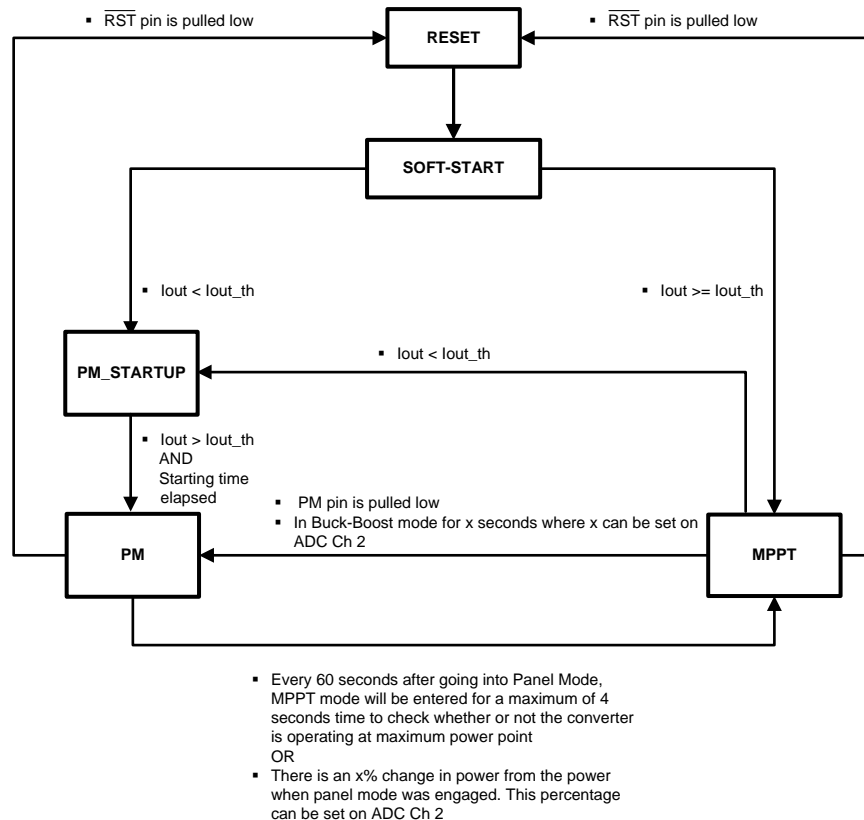

Figure 8. High Level State Diagram for Startup
The value of the voltage on pin A0 is sampled and stored by the ADC of the SM72445 at start-up and after reset events. While voltage on pin AVOUT is above the voltage set at pin A0, the duty cycle of the converter will be reduced every MPPT cycle (1ms-2ms depending on the set switching frequency). This is true when the converter is running in MPPT state or during Soft-Start. When the unit is in Panel Mode (PM) or in Startup Panel Mode (PM_Startup) there is no control on the output voltage and the device will not react to the presence of a voltage on AVOUT higher than the A0 setpoint. See Figure 8 for more details on the different states of operation.